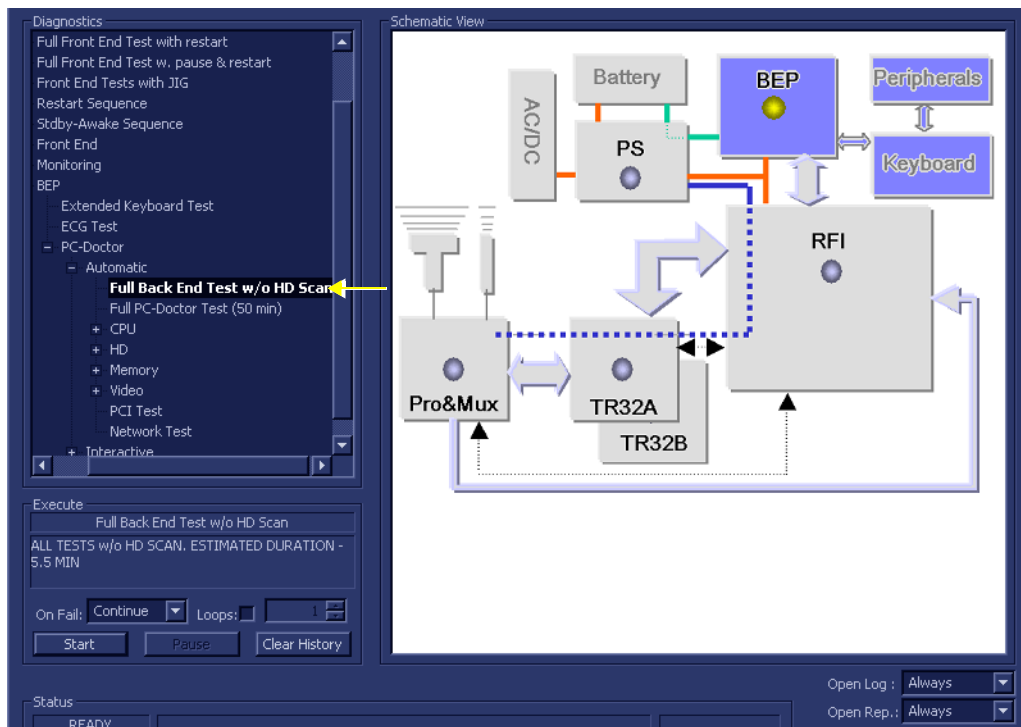

Figure 7-80 Full Back End Test w/o Hard Disk Scan
- 1.) In the *Diagnostic Test* window, trackball to **Full Back End Test w/o Hard Disk Scan** in the list of *PC Doctor* tests available for selection from the Diagnostic Test Tree (see Figure 7-80 below) and press **Set**. The Test name is displayed under *Execute*; the relevant system components to be tested are highlighted light blue in the Schematic View (BEP, Peripherals, Keyboard), as shown below: